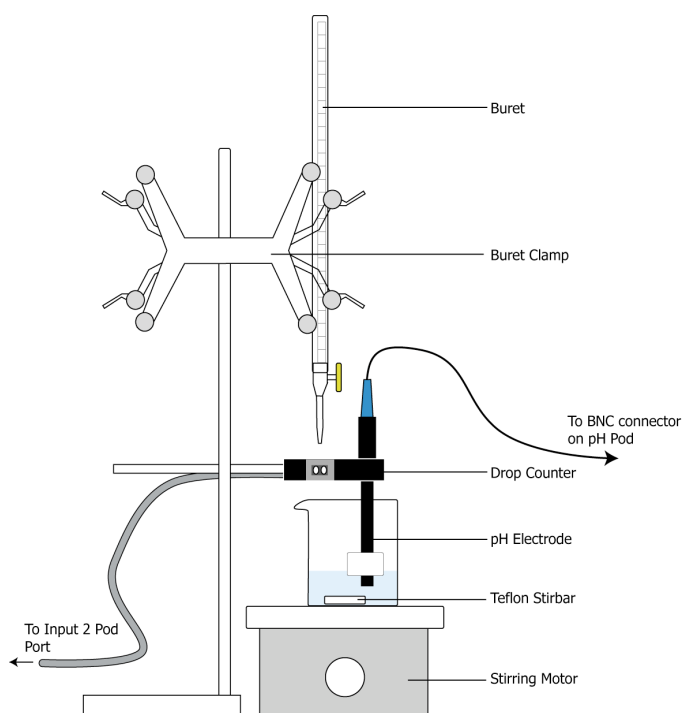

Figure 5.1 Equipment setup to perform the exercises in this experiment.
- 5.1** Clamp the Drop Counter to your retort stand and position it so it is above the Magnetic stirrer (**Figure 5.1**).
- 5.7** Mount a 50 mL burette in the burette clamp on your ring stand (**Figure 5.1**).